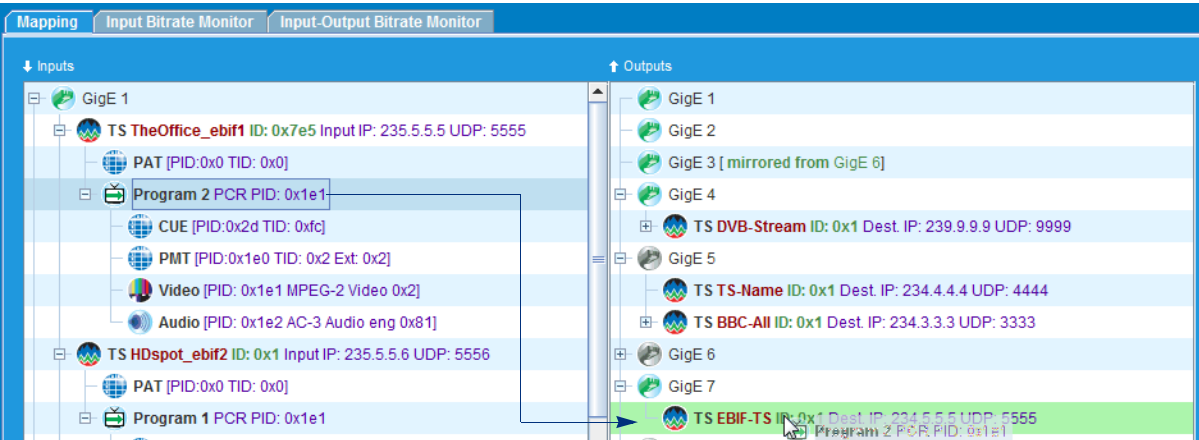

Figure 203. Input program (without ETV data) groomed to oTS
3. Use the **Drag and Drop Grooming** feature to groom a desired input program to the desired output transport stream (oTS), as seen in Figure 203, for example.